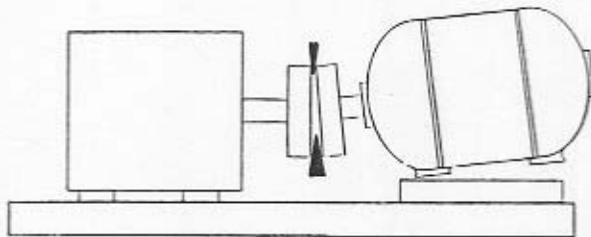

Fig. 4-2 Face Top to Bottom
1. If the coupling gap is open at the bottom and closed at the top (Fig. 4-2), the front feet of the driver must be shimmed to equalize the gap. Should the top be open in relation to the bottom, the back feet must be shimmed.